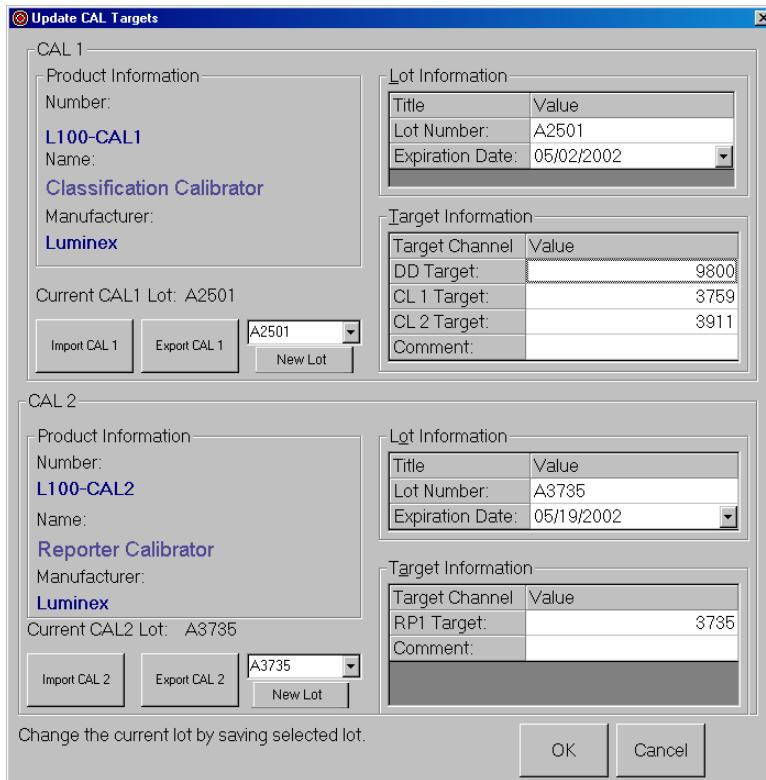

Figure 5-25. Update CAL Targets Dialog Box
8. Click **New CAL Targ.** to enter or confirm calibration lot numbers in the **Update CAL Targets** dialog box. See Figure 5-25.